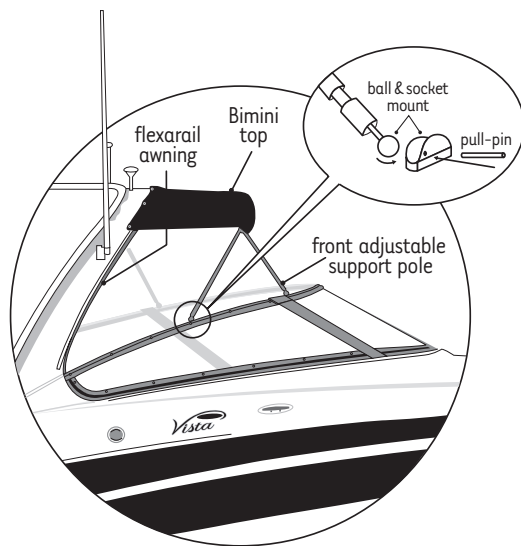

Figure O3: Bimini Top Installation
- 1) Attach the bimini frame using the ball and socket mounts. See Figure O3.